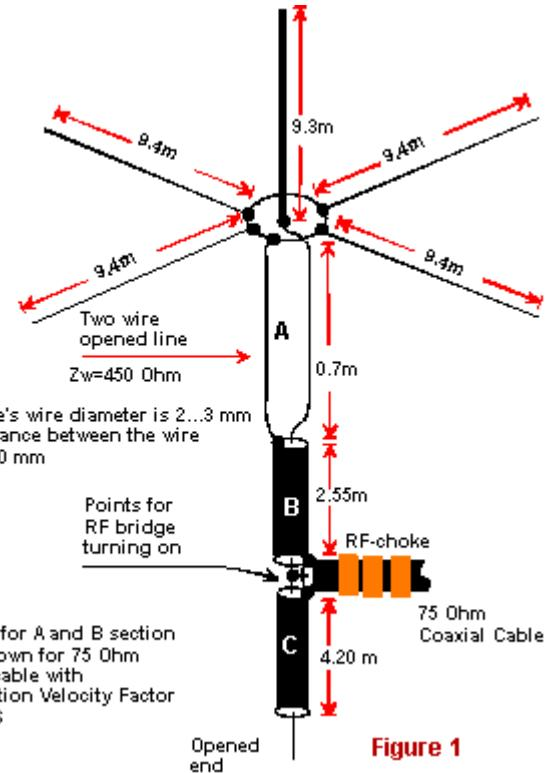

Figure 1
- An RF bridge is turned to input terminal of antenna matching device (see Figure 1).